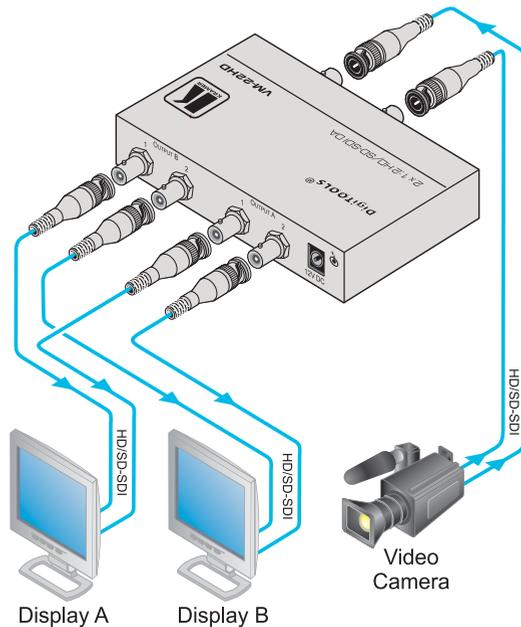

Figure 3: Connecting the VM-22HD in Dual Link Mode
To connect the **VM-22HD**, as the example in Figure 3 illustrates, do the following¹:
4. Connect the 12V DC power adapter to the power socket and connect the adapter to the mains electricity (not shown in Figure 3).